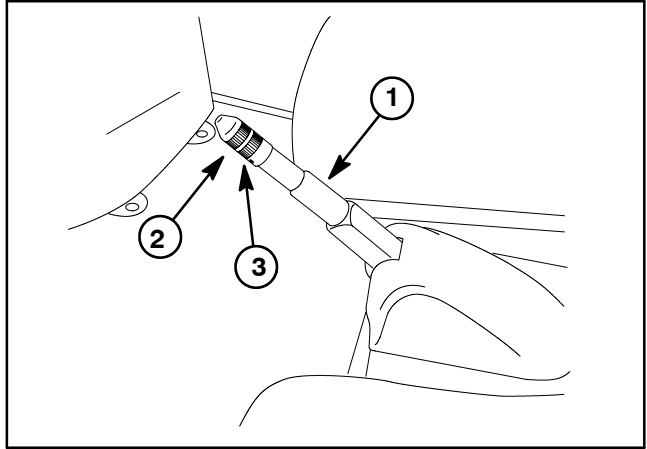

Figure 1
2. Loosen the set screw securing the knob to the parking brake lever (Fig. 1).